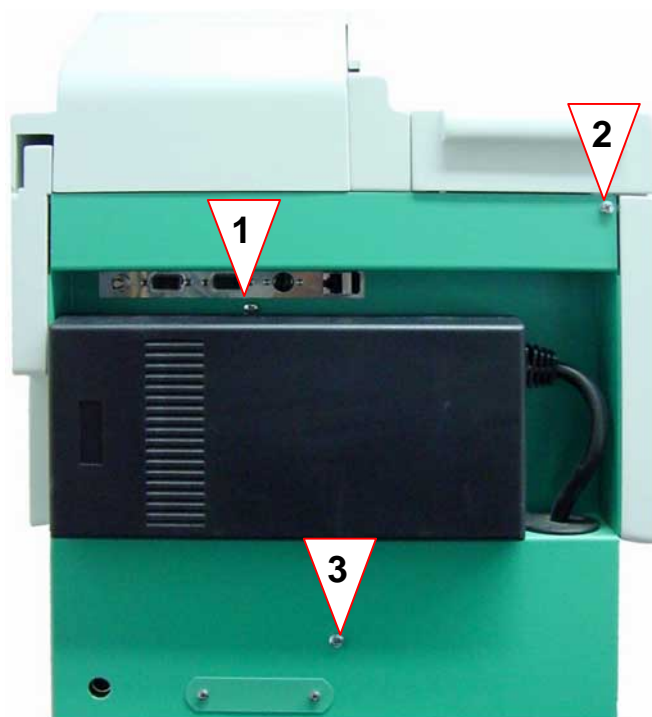

Fig. 3-1 OMNI C rear panel mounting screws
3. Remove the three mounting screws from the rear panel (see Fig. 3-1) and pull off the rear panel from the analyzer (if needed, remove the power supply unit from the rear panel; a certain amount of force is needed because of the mounting with Velcro tape).